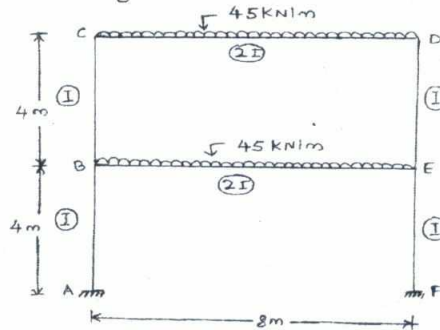

Fig.Q5 (20 Marks)
- 5 Using Kani's method of rotation contribution, analyze the symmetric frame shown in Fig.Q5 and sketch bending moment diagram.